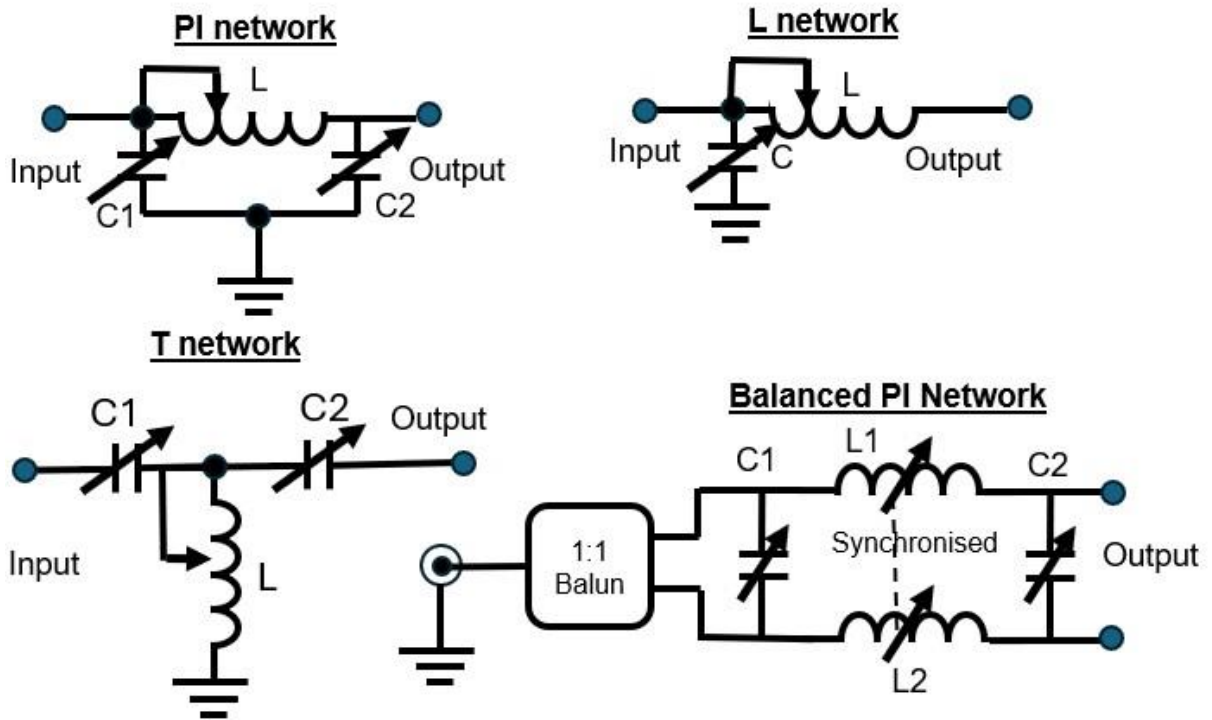

Figure 3 Antenna coupler configurations.
There are four common antenna coupler configurations (Figure 3).
3. The T network is widely used by the Amateur Radio community and is very simple. The design provides easier matching to the 50 Ohm load on the input side as well as wide range matching on the load side. The configuration in Figure 3 is unbalanced and used for coax-to-coax implementation.
4. The Balanced PI Network, shown in Figure 3, is the most complicated configuration and is required when a balanced output is called for when using Open Wire Feeder. The construction layout of this network requires the matching section floated above signal earth. Stray capacitance can impact the coupler's performance. NB: The BALUN at the input side, which is preferable to using a ferrite transformer on the output side where saturation and commensurate losses can be an issue.
On the antenna coupler there are often three controls. On the input and output sides there is a variable capacitor ( $C_1$  and  $C_2$ ) and an inductor ( $L$ ) control between. See the T network in Figure 3. Some coupler designs have fixed inductors and/or one capacitor.